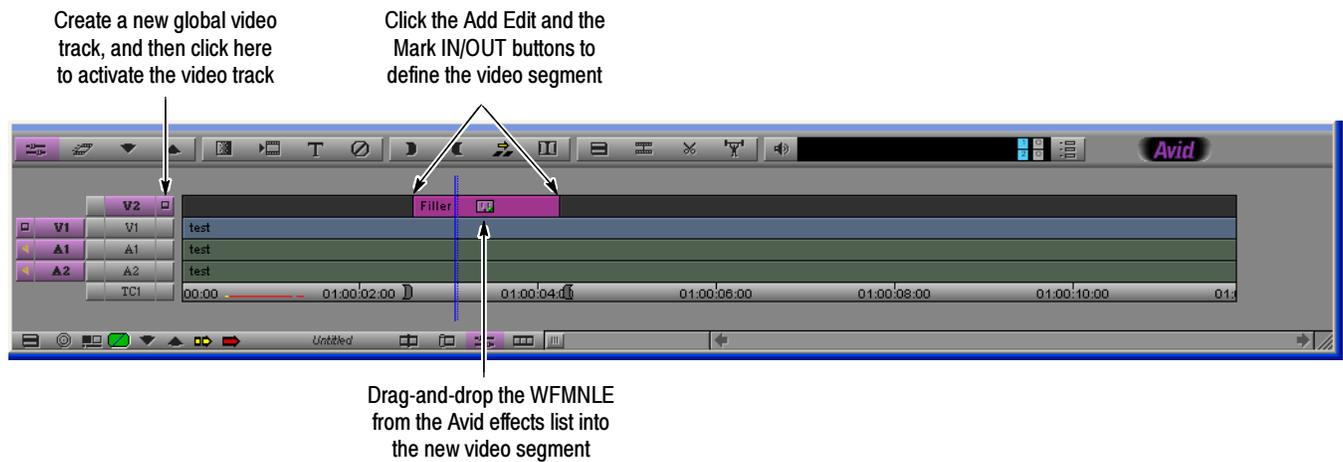

Figure 3: Monitoring a segment of a video clip in the Avid Timeline window
- b. Click the Add Edit button and then click the Mark IN button (see Figure 3).